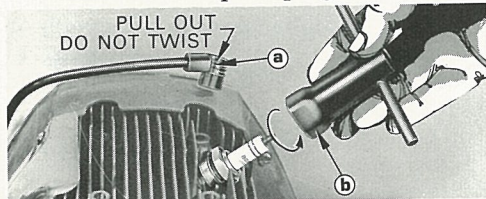

Figure 38
- As illustrated fig. 38, use the box wrench included in the tool kit to remove the spark plug.